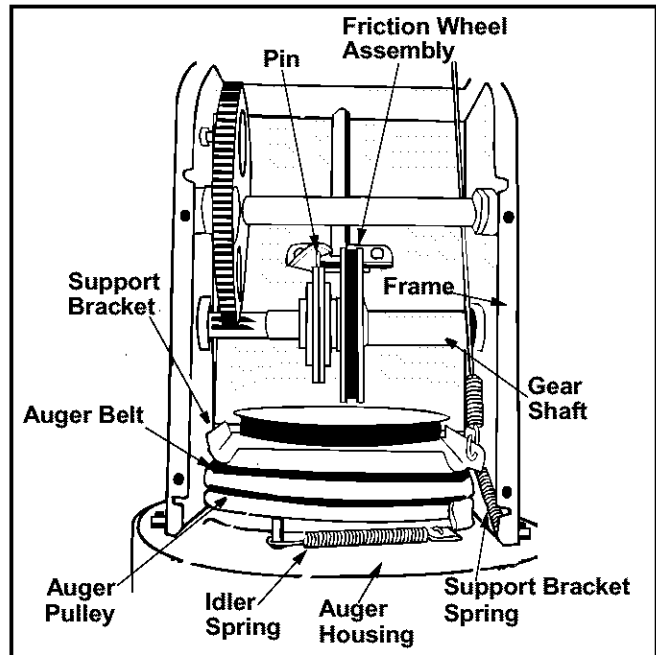

Figure 27
- Unhook the idler spring from the hex bolt on the auger housing. See Figure 27.
- Lift the auger belt from the auger pulley and slip belt between the support bracket and the auger pulley. See Figure 27.
- Slide friction wheel assembly back onto the gear shaft. Be sure to align the pin on the shift rod with hole in the friction wheel assembly. See Figure 27.